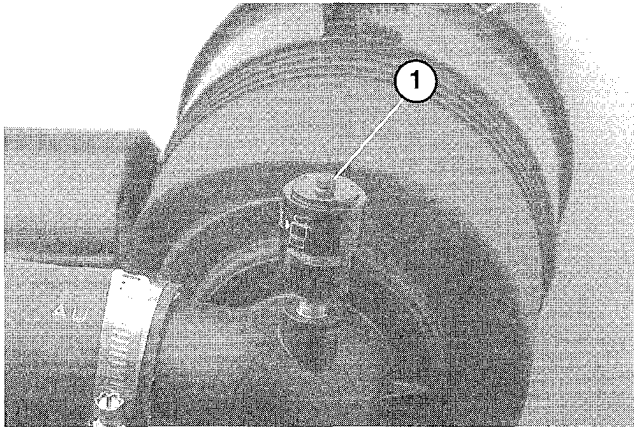

Figure 35
2. Service the air cleaner filters when ever air cleaner indicator (Fig. 35) shows red or every 400 hours (more frequently in extreme dusty or dirty conditions). Do not over service air filter.
8. Reset indicator (Fig. 35) if showing red.